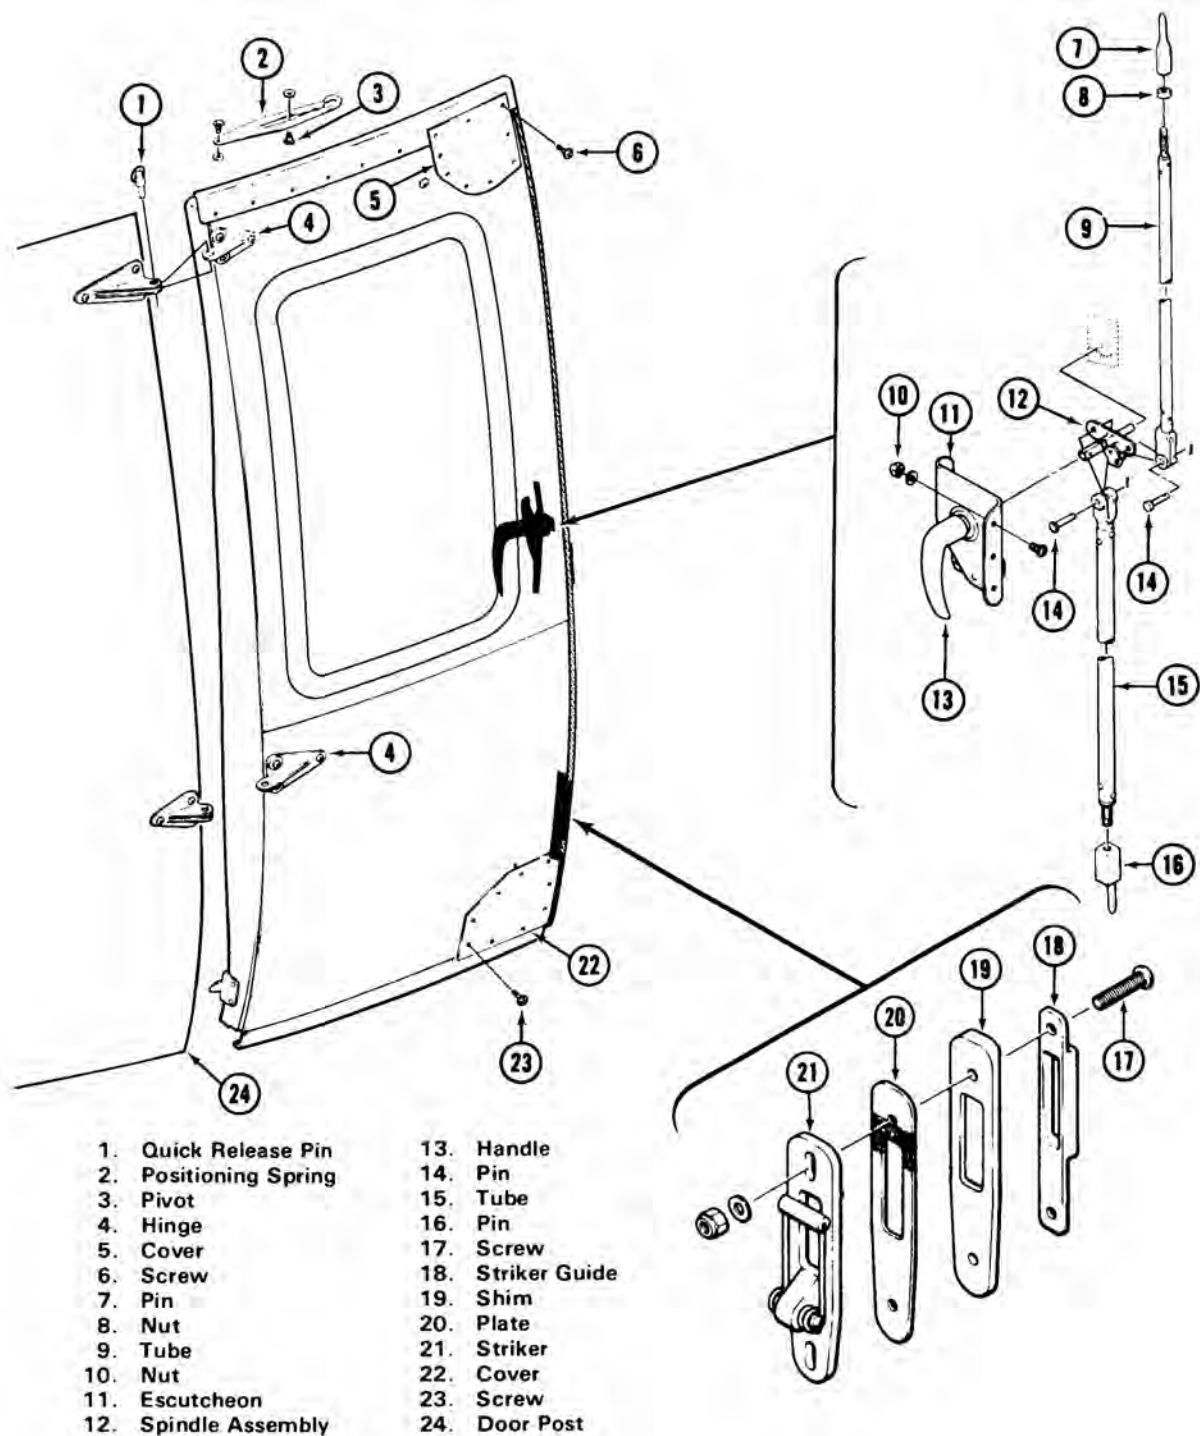

Figure 52-9. Cargo Hinged Panel Door
The hinged panel (located forward of sliding door) (Figure 52-9) provides a wider opening for cargo loading.
52.3.4.1.3 Disengage positioning spring (2, Figure 52-9) from stud at top of opening.
52.3.4.3.1.1 Position striker guide (18, Figure 52-9) on outside surface of panel and shim (19), plate (20), and striker (21) on inside surface of panel. Install two screws (17) with washers and nuts.